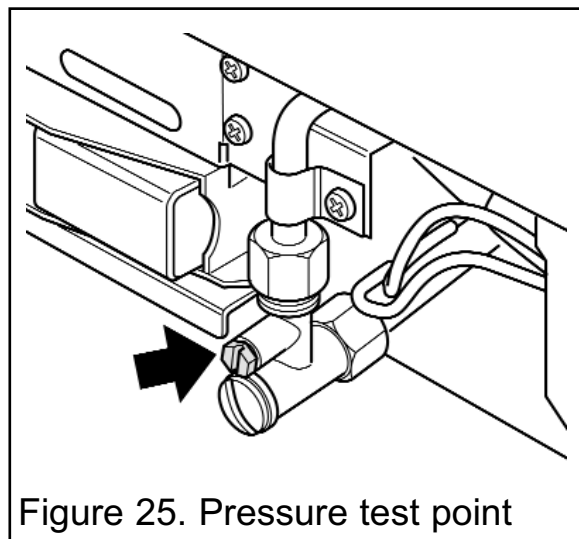

Figure 25. Pressure test point
1. Ensure that the appliance is switched OFF, then fit a pressure gauge at the test point. The test point is on the inlet 'T' connector (See figure 25). Check the pressure with the appliance alight and set at maximum output.